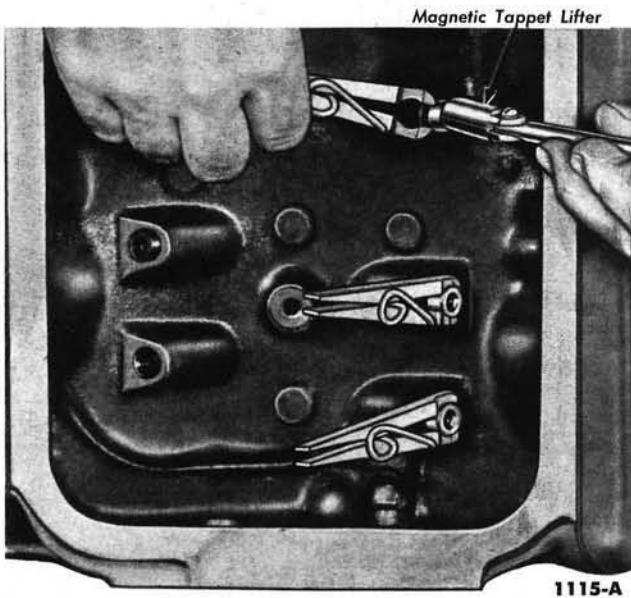

FIG. 47—Lifting and Securing Valve Tappets—292 Engine
7. Turn the camshaft until the tappets can be lifted with either a magnet or the fingers (Fig. 47). Raise the tappets clear of the camshaft lobes, and secure them with spring-type clothespins or window regulator spring clips (Figs. 47 and 48).